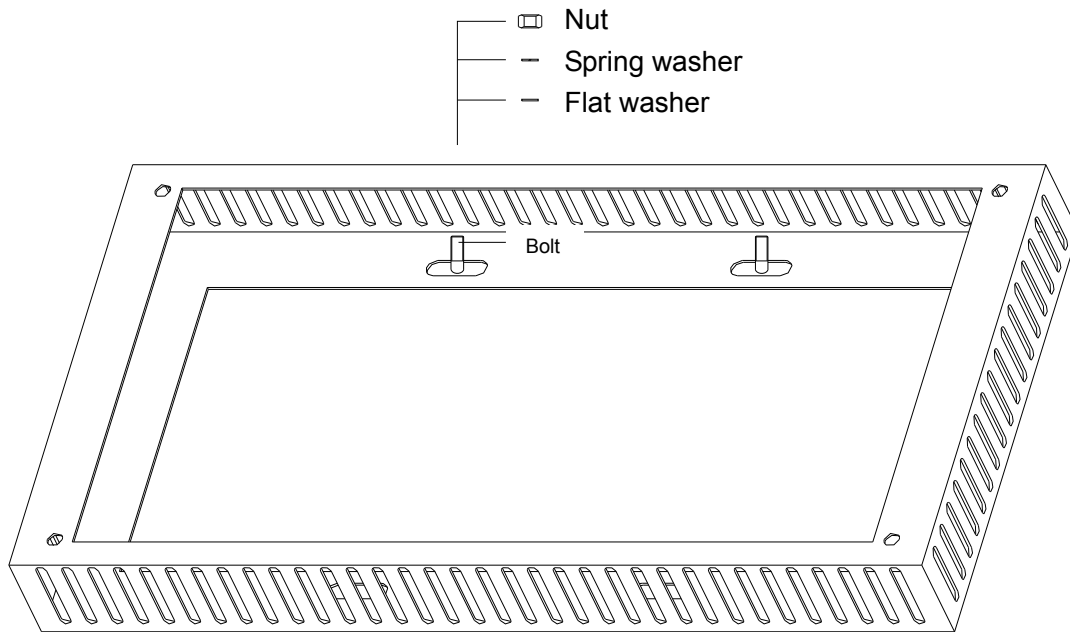

Figure 4
b) Iron Stand Platform Installation: When the UPS is required to be installed on an iron stand platform, firstly fix the base on the iron stand platform according to the dimensions of A group installation holes shown in Figure 4 using 4 U-shaped clamps, gasket, flat washers, spring washers and nuts (as shown in Figure 4). After doing this, place the UPS rack on the fixed base and open the front and rear panel to fix it to the base again using the 4 M8 screws removed in the second step, as shown below.